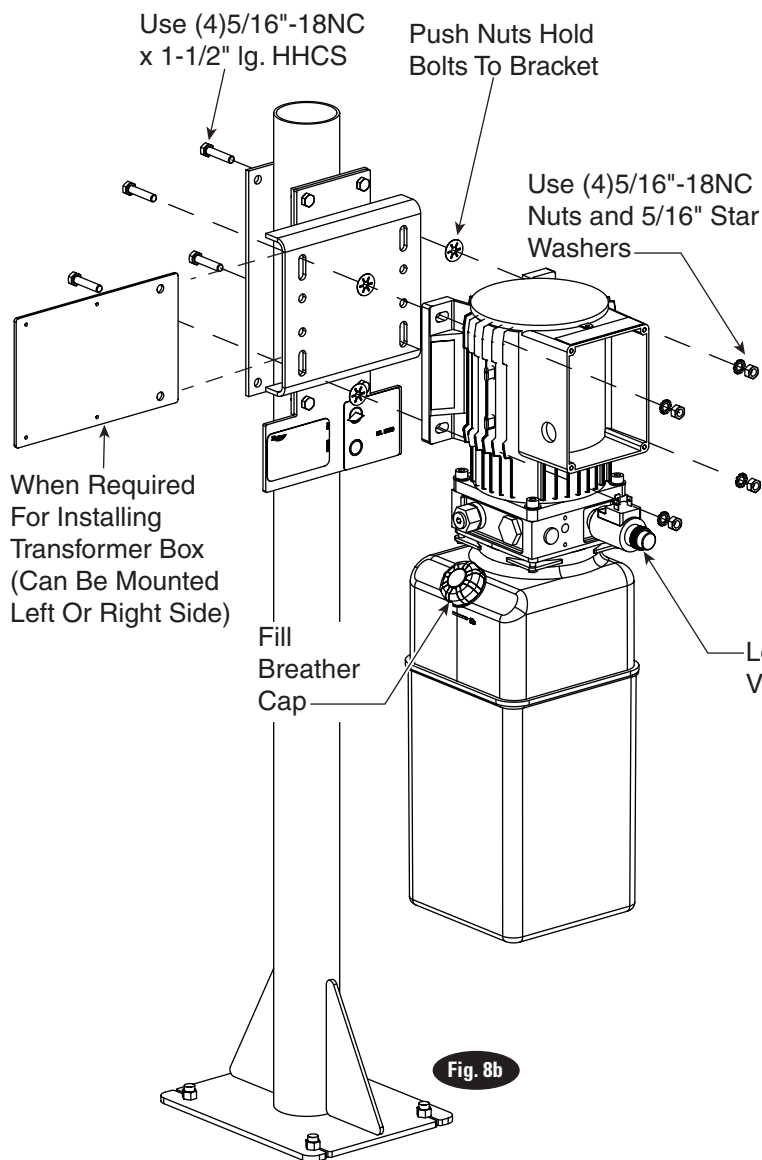

Fig. 8b
**H.** Put (4) 5/16"-18NC x 1-1/2" HHCS through power unit bracket using push-nuts to hold in place, Fig. 8b.
**I.** Mount power unit, with motor up, to the power unit bracket and install (4) 5/16" nuts and lock washers, Fig.8b.